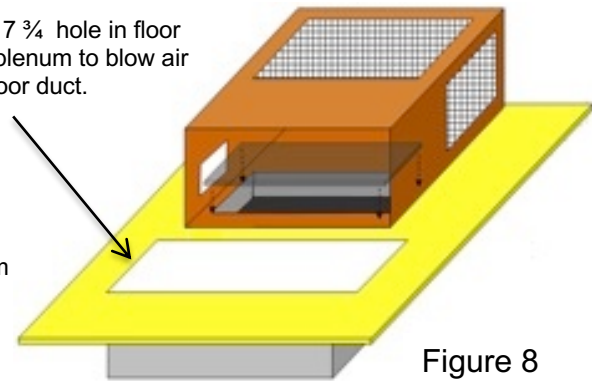

Figure 8
5. Measure 1 1/2" out from access panel opening and cut 4 1/4" x 17 3/4" hole in floor to access furnace plenum (see figure 8).